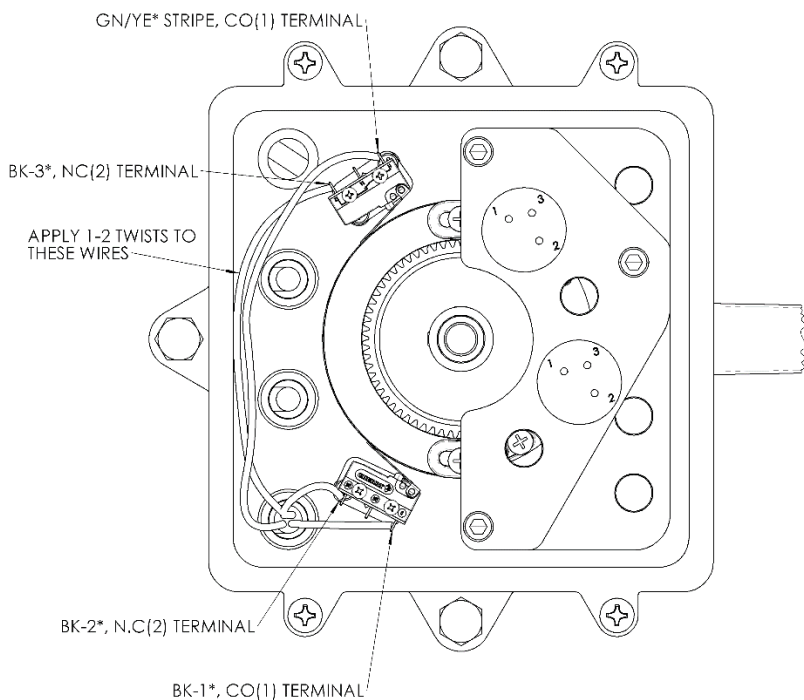

Figure 6: Default factory wiring diagram of new microswitches, 7174-B shown.
- a. The actuation lever of microswitch ② is clear of any obstructions through its range of motion.
- b. The microswitch ② actuation lever is depressed enough to actuate the switch contacts when the RFU is at its limit. This can be done by checking for no continuity across the Normally Closed(N.C) terminal 2 and the Common(C) terminal 1. See Figure 6 for clarity on terminals being checked. When the switch is depressed, terminal 1 and 2 should have no continuity.
- c. The microswitch ② lever is raised enough to let the switch go to its normally closed position when the RFU is not at its limit. This can be done by checking for a closed circuit (continuity) across the Normally Closed and Common terminals. When the RFU lever is off its limit position, there should be continuity across terminal 1 and 2.
- a. Refer to Figure 6 for the recommended wire routing route to ensure the wiring are free of any moving parts.
- b. As per Figure 6 twist the two longer wires going to the left switch 1-2 times, or use 1-2 cable ties to secure the wires together.
- b. For reference the default factory wiring is given in Figure 6.